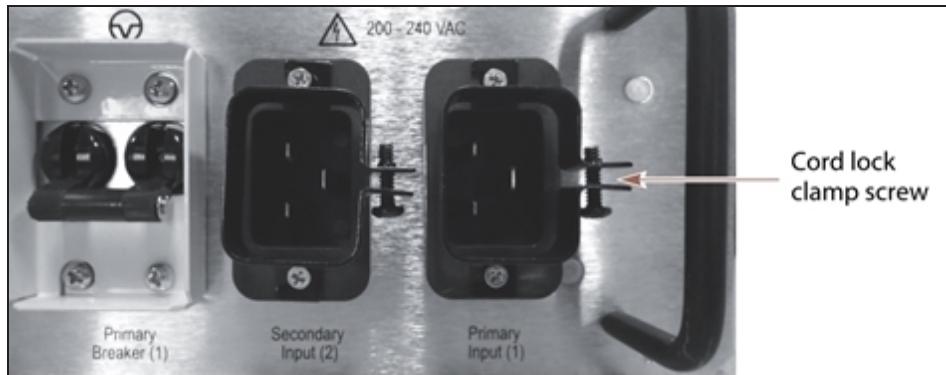

Figure 92 Install the cord locks on the power cords.
5. Place a cord lock over the connector on the end of the power cord that connects to the library. Orient the cord lock as shown in Figure 92.